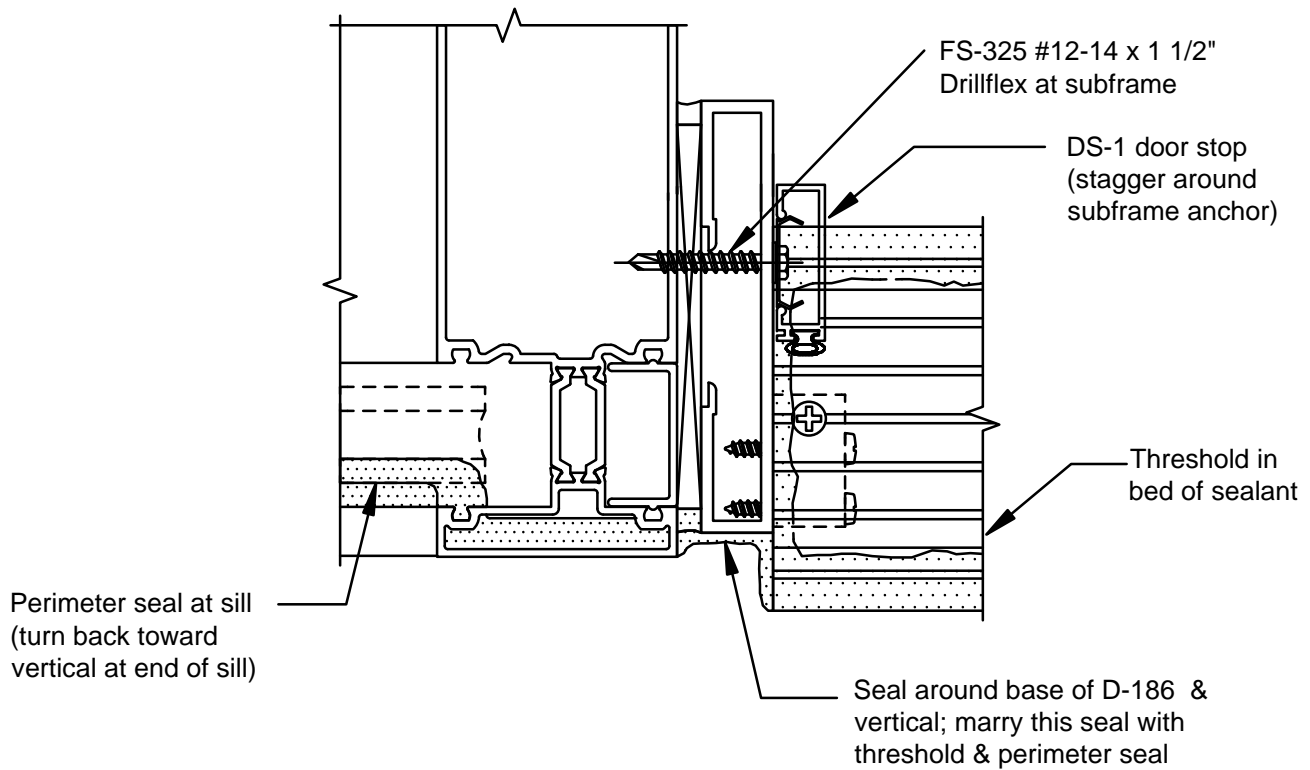

FIGURE 40
- C.2.4 Bed threshold in sealant, attaching TH-44 clips with FS-42 #12 x 1/2" Phillips Flat Head screws. Marry threshold seal with subframe and main system seal. SEE FIGURE 40, Page 39